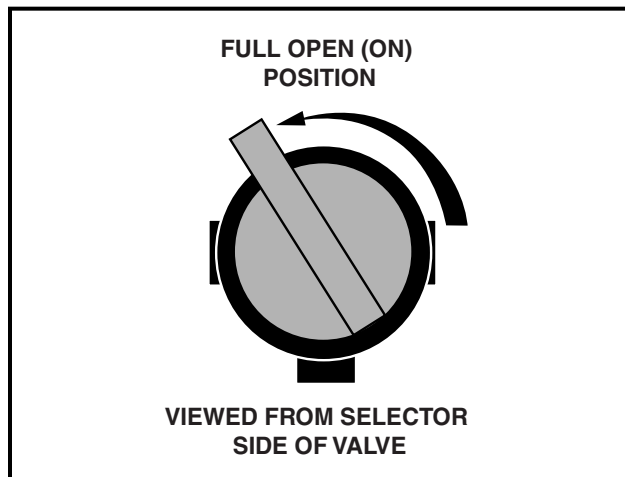
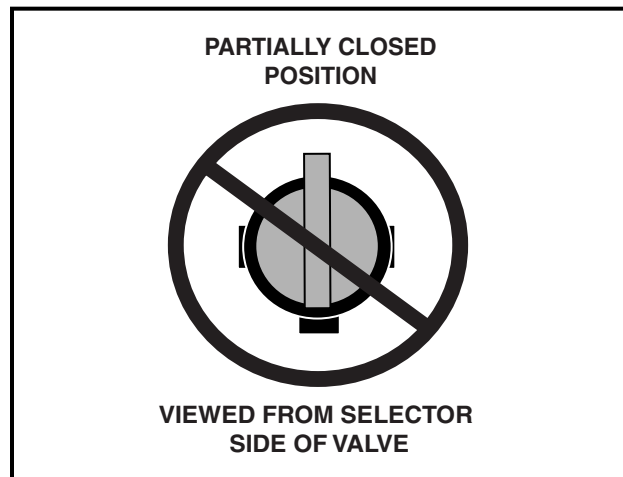

Figure 15 Fuel Shut-off Valve – Open Position
Figure 16 Fuel Valve – Partially Closed Position
- 6.1. Turn the fuel shut-off valve to the closed (OFF) position (**Figure 15**) and run the engine until fuel remaining in the carburetor and fuel line is depleted and the engine stalls.
6. Completely open the fuel shut-off valve (**Figure 15**). Make sure the valve is fully open. A partially closed fuel shut-off valve combined with the use of the choke can result in a fouled spark plug and engine failure (**Figure 16**).
- Turn the fuel shut-off valve to the closed (OFF) position (Figure 15).